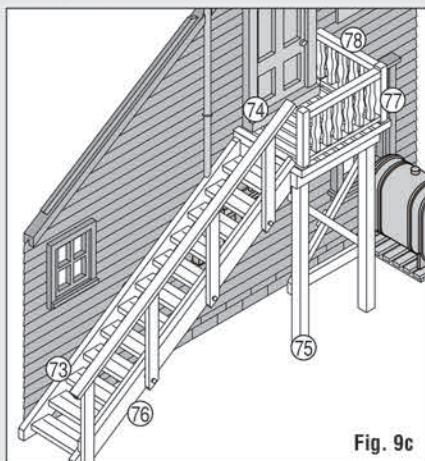

Fig. 9c
- Assemble Back Stairs in numerical order (73, 74, 75, 76, 77 and 78), then glue in place (Fig. 9c).